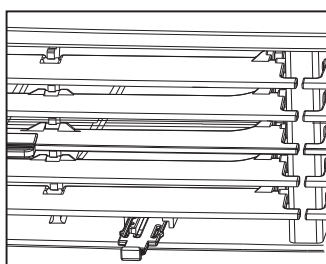

Figure 2 (VENT OPEN)
2. Partially Pulled Out (Fig. 2) – Draws fresh air into room